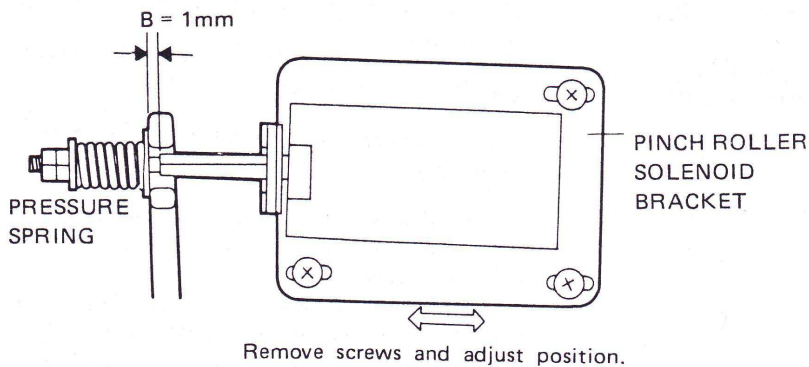

Fig. 22
## 6.4 PINCH ROLLER PRESSURE ADJUSTMENT (Figs. 22, 23)
3. Make sure that the gap B shown in Fig. 22 is 1mm.